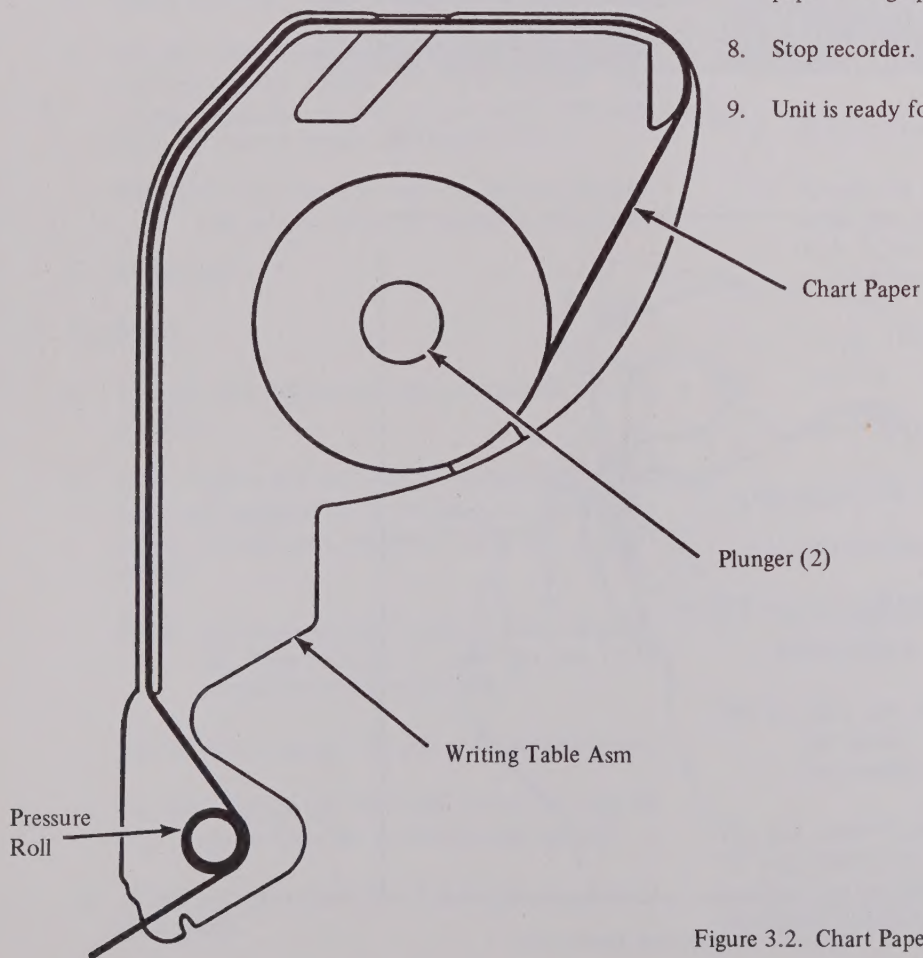

Figure 3.2. Chart Paper Threading Diagram
5. Feed the paper over the top of the writing surface, and behind pressure roll. (See Figure 3.2.)